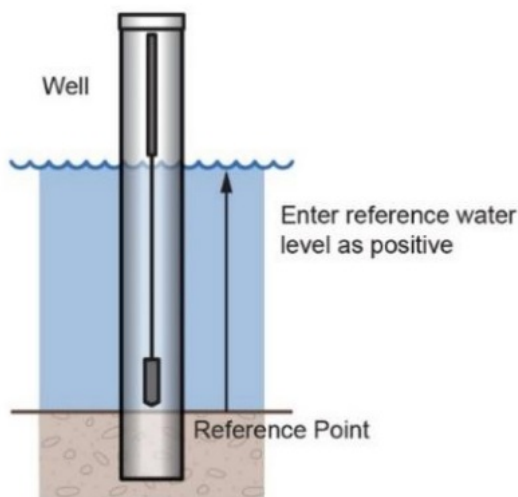

Figure 2: Water level is above reference point
- Note this as a positive number if the water level surface is *above* the reference point, such as the bottom of the stream or the zero on a staff gauge (**Figure 2**).